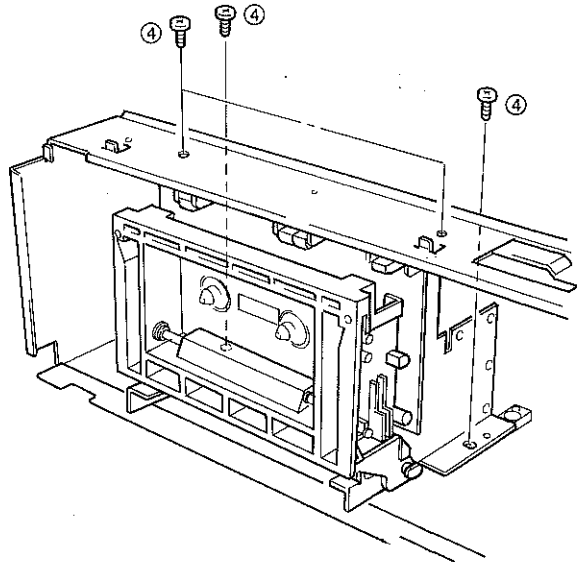

Fig. 3
- a. Remove 4 screws (④) in fig. 3.